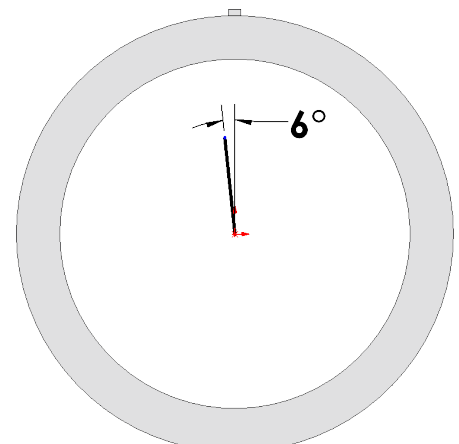

Fig. 19
Step 6. **Dimension angle 6°**, **Fig. 19**. To dimension angle to imaginary line, click line and Origin , then click the **top vertical crosshair**  and place dimension.